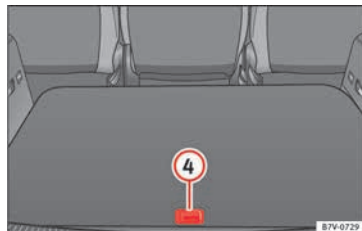

Fig. 189 Other compartments in the boot floor.
Open the rear compartment » Fig. 189 ④:	▷ Lift the rear of the boot floor using the handle.